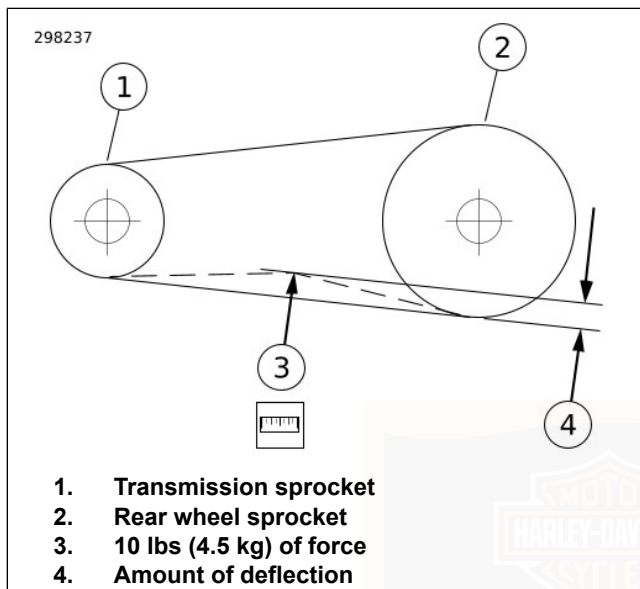

Figure 50. Checking Belt Deflection
- b. **All other models:** See Figure 50. Measure belt deflection (4) while holding gauge steady.